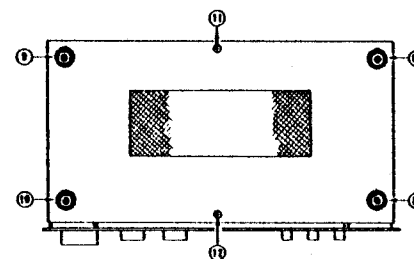

Fig. 2
1. Remove the 2 setscrews (⑪, ⑫ in Fig. 2) used to secure bottom plate and 4 setscrews (⑨, ⑩, ⑬, ⑭ in Fig. 2) for the legs. Then the bottom plate can be detached.